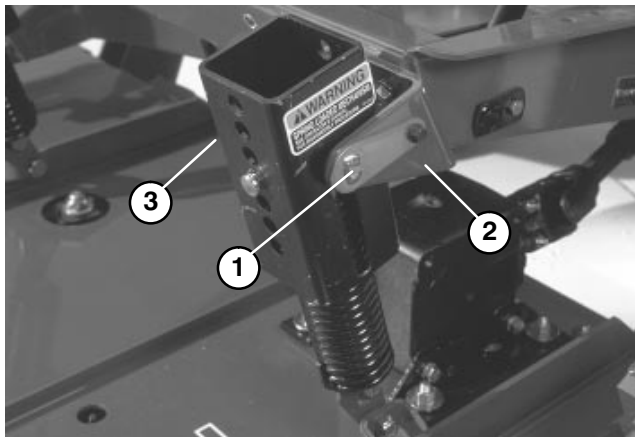

Figure 24
SEPARATING CUTTING UNIT FROM TRACTION UNIT (Fig. 24–26)
2. Disconnect counterbalance from traction unit, remove lock pins from brackets, separate spring tension assemblies from brackets and lay them down on the deck. Loosely secure lock pins to brackets to prevent losing them (Fig. 24).
MOUNTING CUTTING UNIT TO TRACTION UNIT (Fig. 24–26)